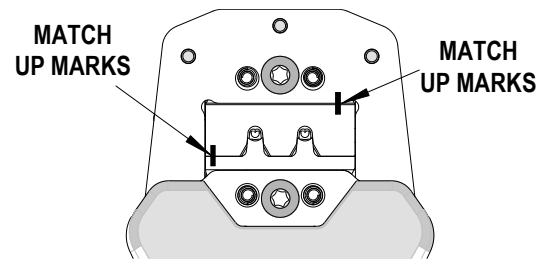

Figure 4
5. Install the M3 screw. Make sure the small markings on the front of the hand tool frame match up. See Figure 4.